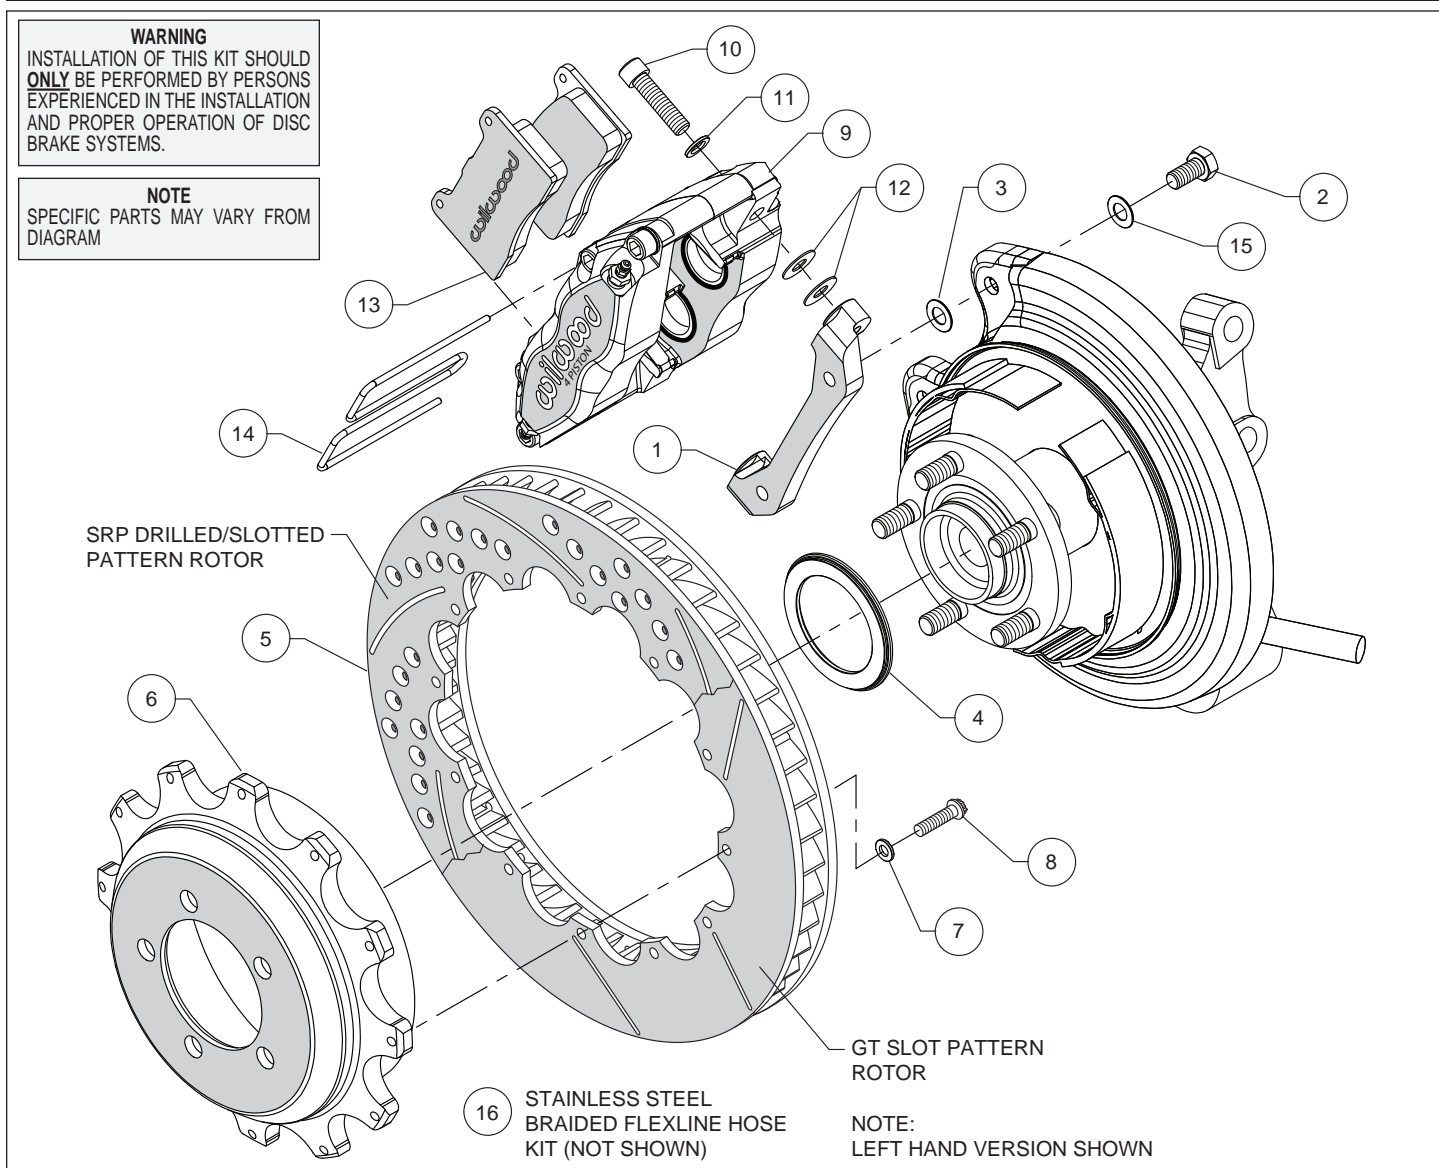
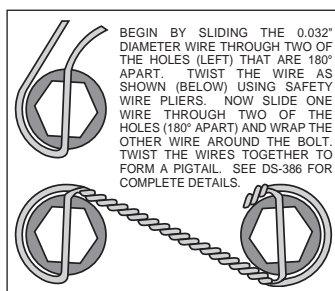

Figure 1. Typical Installation Configuration
Figure 3. Safety Wire Diagram
**Assembly Instructions** (numbers in parenthesis refer to the parts list and Figure 1 on the preceding pages):
- The caliper mount bracket (1) should initially be installed with clean, dry threads on the mounting bolts. Orient the bracket as shown in Figure 1 and Photo 3, and install using washers (15) and bolts (2). Initially place one shim (3) on each bolt between the bracket and upright, Figure 1. Temporarily tighten the mounting bolts. **NOTE:** *The bracket must fit squarely against the mount bosses on the upright.* Inspect for interference from casting irregularities, machining ridges, burrs, etc. Later, after the caliper alignment has been checked, the mount bolts will be secured using red *Loctite*® 271.
- Orient the rotor (5) and the hat (6) as shown in Figure 1 and Photo 4. Attach rotor to hat using bolts (8) and washers (7). Using an alternating sequence, apply red *Loctite*® 271 to the threads, and torque to 140 **in-lbs**. For an added measure of security, the bolts may be safety wired using standard 0.032 inch diameter stainless steel safety wire as shown in Figure 3. Please refer to Wilwood's data sheet DS-386 (available at [www.wilwood.com/Pdf/DataSheets/ds386.pdf](http://www.wilwood.com/Pdf/DataSheets/ds386.pdf)) for complete safety wire installation instructions.
- Slide the rotor registration adapter (4) onto the axle register on the axle hub with the smaller O.D. facing outward, Photo 5. Slide the hat/rotor assembly onto the axle hub. **NOTE:** *The hat must fit flush against the axle hub flange or excessive rotor run out may result.* Install three lug nuts (finger tight) to keep the hat/rotor assembly in place while continuing with the installation.
- Mount the caliper (9) onto the bracket (1) using bolts (10) and washers (11), Figure 1. Initially place two .035" thick shims (12) on each bolt between the caliper and bracket as shown in Figure 1 and Photo 6. Temporarily tighten the bolts and view the rotor through the top opening of the caliper. The rotor should be centered in the caliper, Photo 7. If not, adjust by adding or subtracting shims (3) between the bracket and the upright. Once the caliper alignment is correct, remove the bracket mounting bolts one at a time, apply red *Loctite*® 271 to the threads, and torque to 35 ft-lb.
- Install the disc brake pads (13) into the caliper, with the friction material facing the rotor, as shown in Photo 8. Check that the top of the brake pad is flush with the outside diameter of the rotor, Photo 9. If not, adjust by adding or subtracting shims (12) between the caliper and the bracket. After the caliper pad height